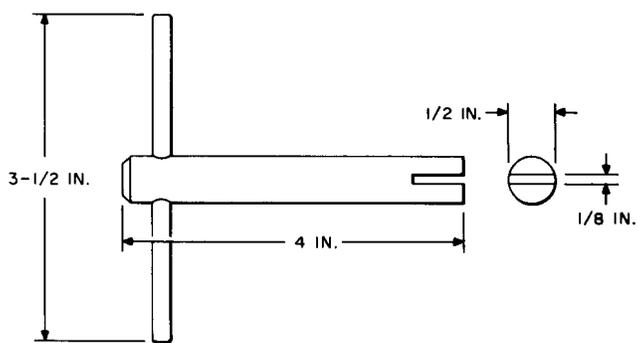

Fig. 5—AECO H-10001-3 Adjuster Tool
**2.05 AECO H-10001-3:** The AECO H-10001-3 tool (Fig. 5) is an adjuster used on plunger-type line and out-trunk switches.